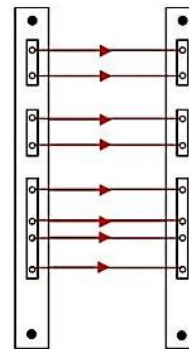

Figure 1
2. Drill the aluminium bars at both ends and fix them to the wall paying attention to keep them on the same axis (Fig.1). For higher barriers drill additional holes as required. After drilling the aluminum profiles and / or the closing caps at the top and bottom, it is recommended to seal with silicone.